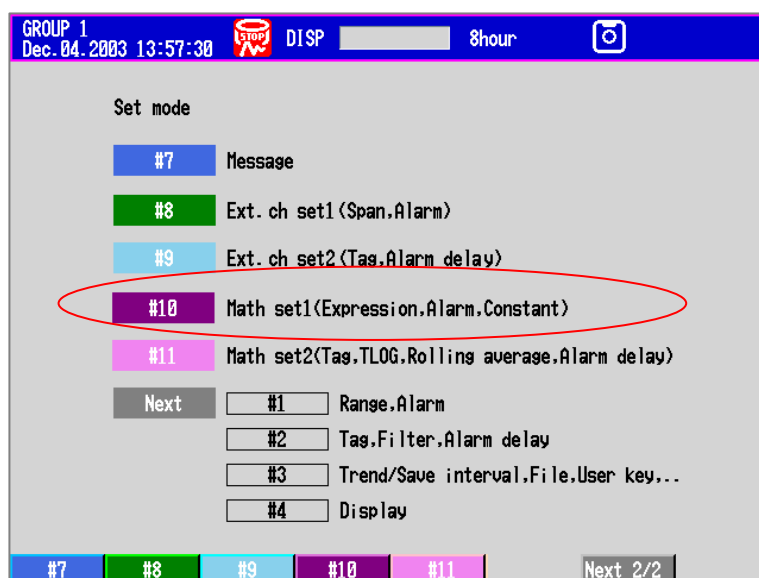

Fig. 2.2 Expandable input channel setting item selection screen
- The settings on the screen are made using [#8 Ext.ch set1] and [#9 Ext.ch set2] of [Set mode]. (Red circle portion in Fig. 2.2)